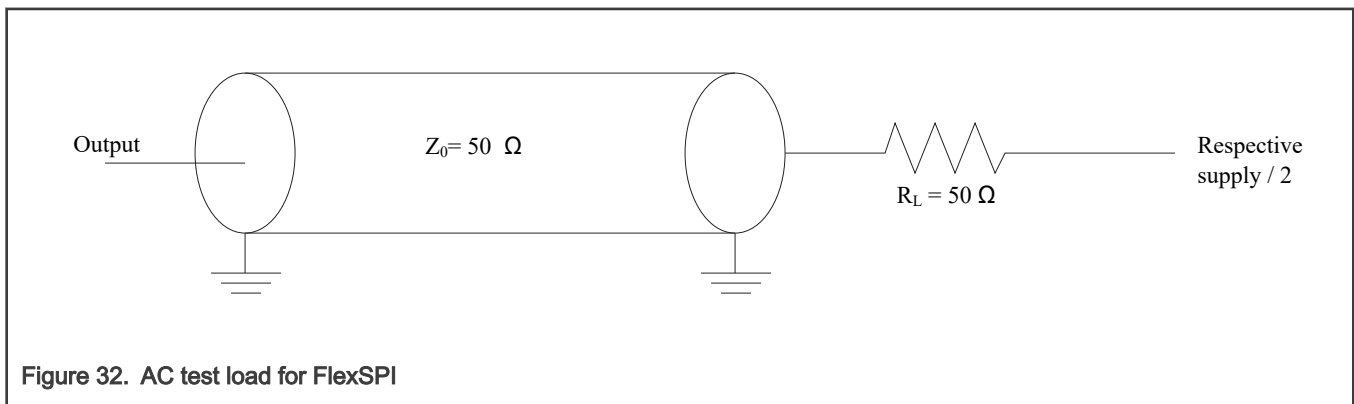

Figure 32. AC test load for FlexSPI
2. See Figure 32.
2. For DDR, Unit Interval (UI) is half of period. For example, 5 ns for 100 MHz
4. See Figure 32.